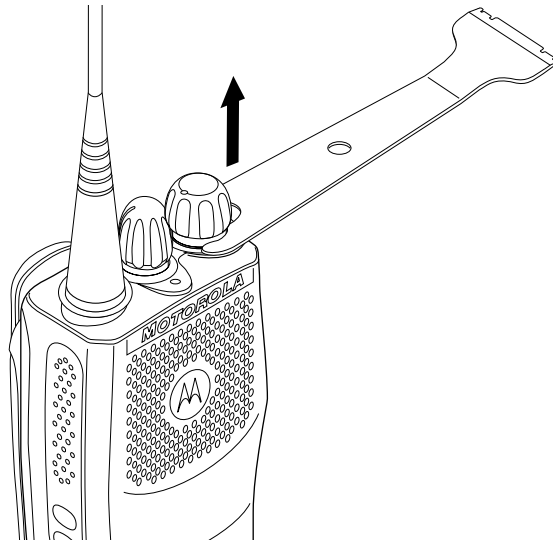

Figure 6-2. Antenna and Knob Removal
4. Pry off the volume and channel selector knobs from their shafts using the knob removal/chassis opener tool (Motorola part # 6686533Z01). (Figure 6-2).